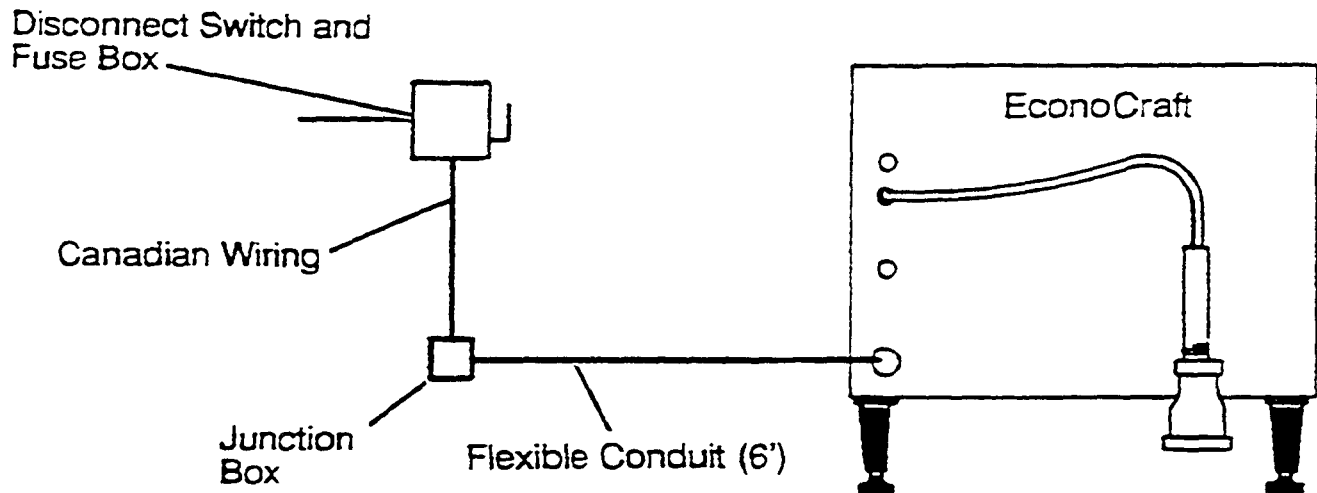

Figure 2-11 - Canadian Connection Diagram
- Connect the wires from the EconoCraft flexible cable to those in the junction box according to Figure 2-11.